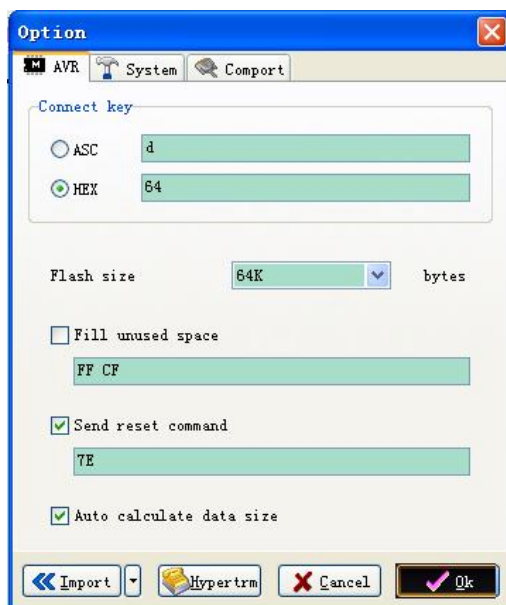

Fig. 3
- 3) Click at “Options” on the main menu. Change settings on the tab “AVR” as per Fig. 3. The Connect key has to be set to HEX 64. Flash size should be 64K.